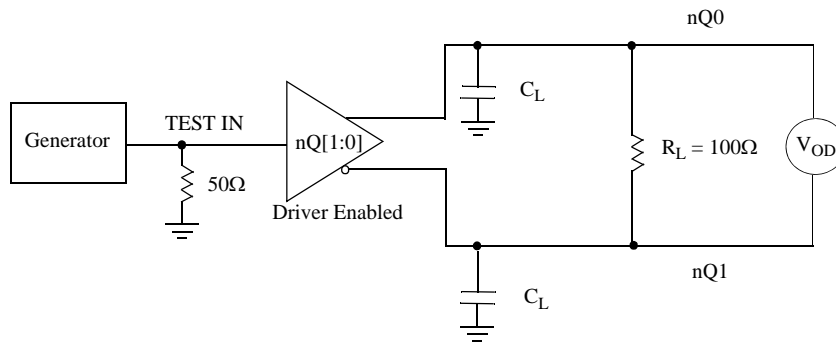

Figure 9. LVDS Driver V_{OD} and V_{OS} Test Circuit or Equivalent
- All outputs are equally loaded. See figure 9.
3. When measuring, use Figure 9.